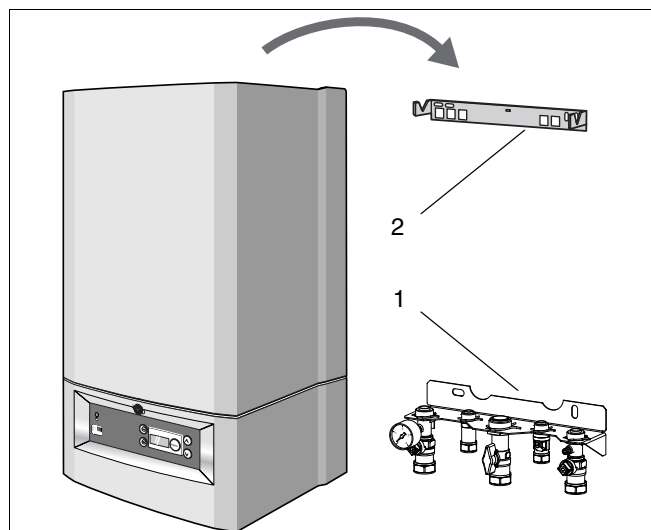

fig. 2 Installation
- Attach the manifold assembly to the wall (fig. 2, item 1).
- Attach the wall bracket (fig. 2, item 2).
- Hang the condensing gas boiler onto the wall bracket (fig. 2).